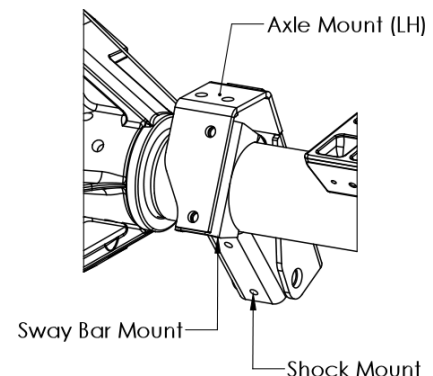

Figure 22. Axle Mount Positioned on Axle
7. Locate the left-hand Axle Mount and place it on top of the axle so that it rests on top of the sway bar mount. See Figure 22